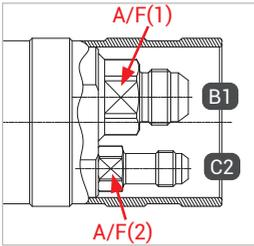

Figure 1
- ▶ When mounting the filling and venting hose, hold an open-ended wrench against the wrench flat A/F(1) and A/F(2) (Figure 1).
- ▶ Screw the media inlet 'B1' pressure-tight onto the connection port of the filling hose (Figure 1). Please see the table below for the tightening torque.
- ▶ Screw the gas recirculation 'C2' pressure tight onto the connection port of the venting hose (Figure 1). Please see the table below for the tightening torque.